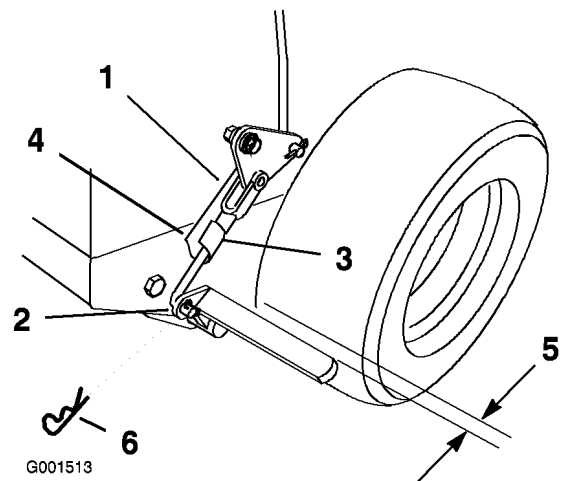

Figure 46
3. Remove the spring hair pin from the lower brake link (Figure 46).
4. Rotate the lower brake link yoke clockwise into the yoke to tighten the parking brake; rotate the brake link yoke counterclockwise out of the yoke out to loosen the parking brake (Figure 46).
Note: There should be approximately 1/4 inch clearance between the tire and the flat bar when the parking brake in the released position (Figure 46).
5. Secure the lower link to the lower brake lever with the hair pin cotter and the clevis pin (Figure 46).